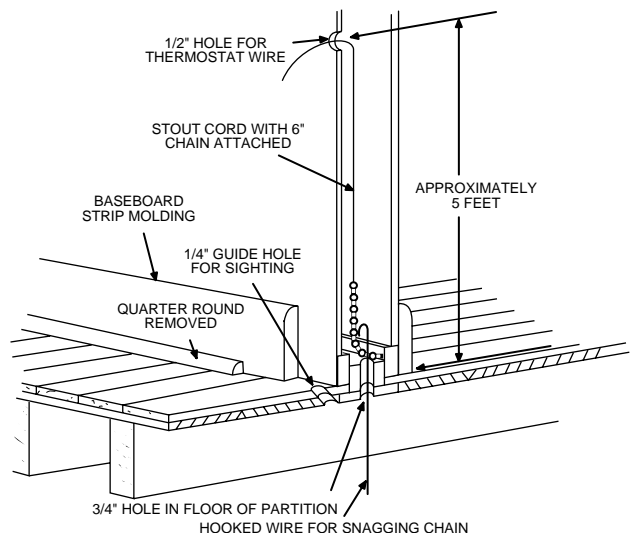

Figure 1. Routing Thermostat Wires
1. Probe for obstructions in partition before drilling 1/2" hole in wall at selected location. Take up quarter round and drill a small guide hole for sighting (see fig. 1). From basement, drill 3/4" hole in partition floor next to guide hole. In basementless buildings, drill 1/2" hole through ceiling and into partition from above.